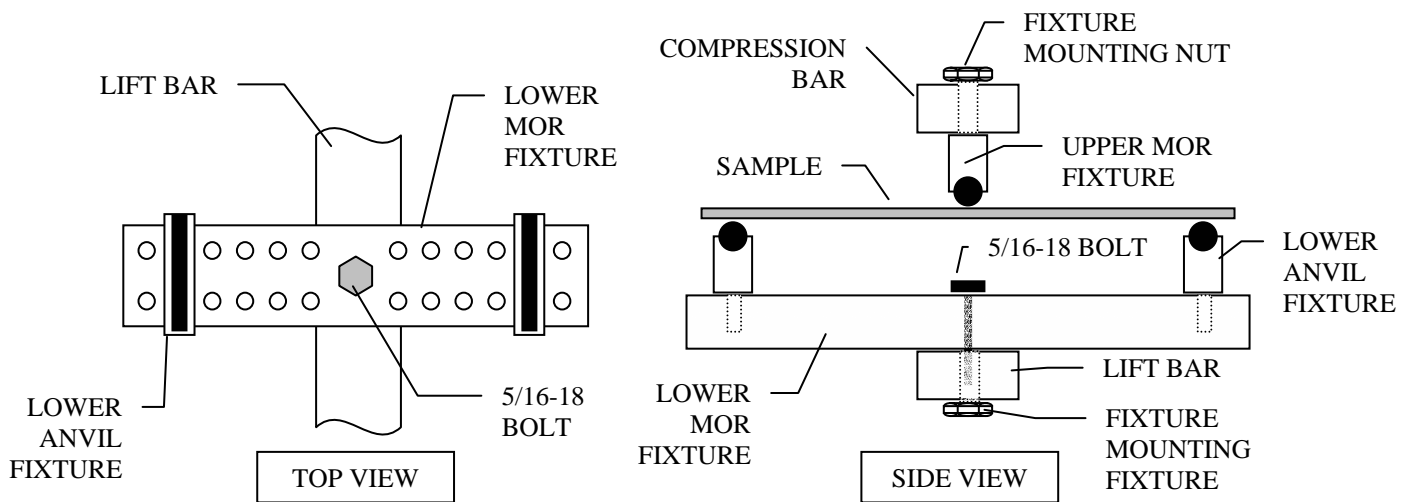

Figure 4.12 – MOR FIXTURE REFERENCE
5. Hold the upper MOR fixture against the bottom of, and parallel to, the Compression Bar with the Mounting Stud passing through the center hole. Install the Fixture Mounting Nut from the topside of the Compression Bar and onto the fixture stud. Refer to Figure 4.12 - MOR FIXTURE REFERENCE below.